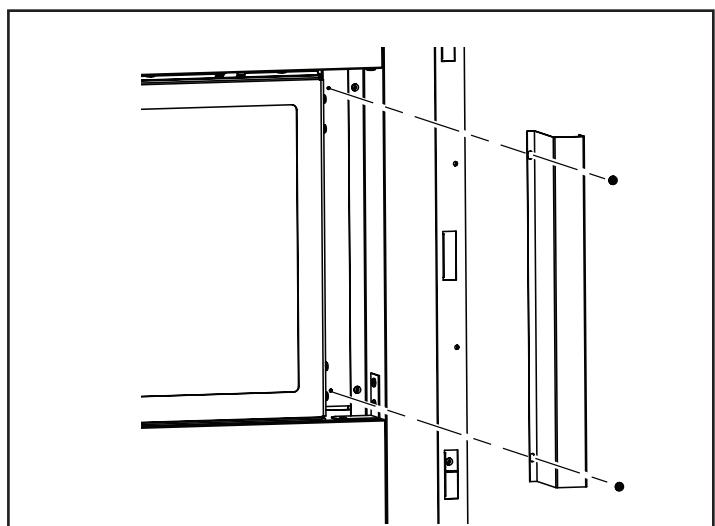

Figure 42 - Installing Side Face Filler for See-Thru Applications
1. Screw side face filler into firebox side baffle using 2 screws on both the left and right side as shown in *Figure 42*.